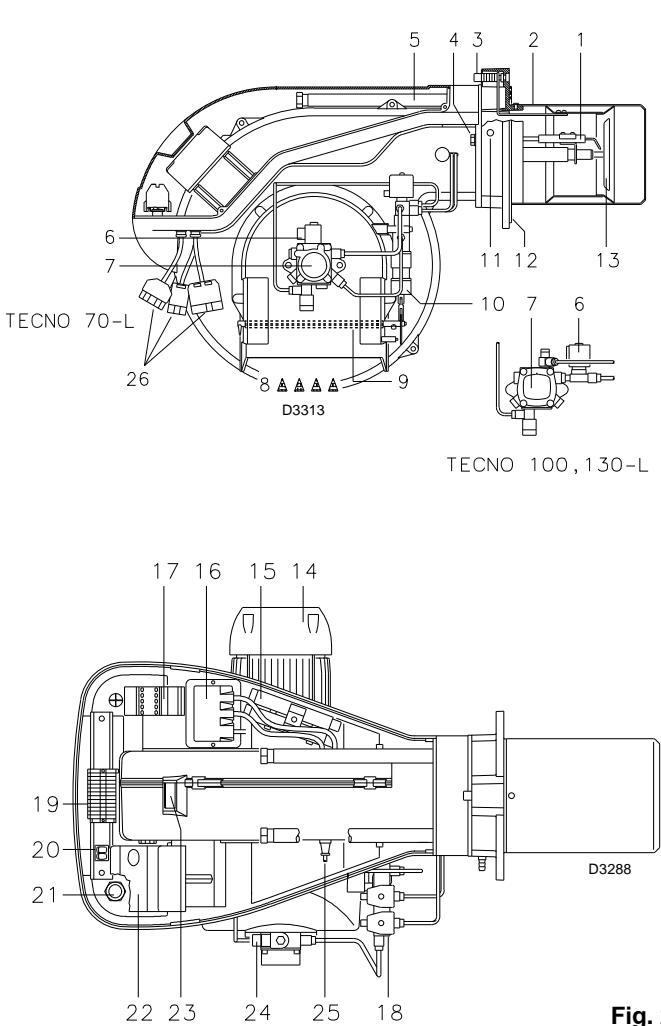

Fig. 2
- 2 - Extensions 15) (Fig. 2) for slide bars 5) (Fig. 2) (for models with 385 mm blast tube)
3.3 Burner description (Fig. 2)
Control box lock-out: if the control box 22) (Fig. 2) pushbutton (red led) lights up, it indicates that the burner is in lock-out. To reset, hold the pushbutton down for between 1 and 3 seconds.
Motor trip: release by pressing the pushbutton on thermal cut-out 17) (Fig. 2).